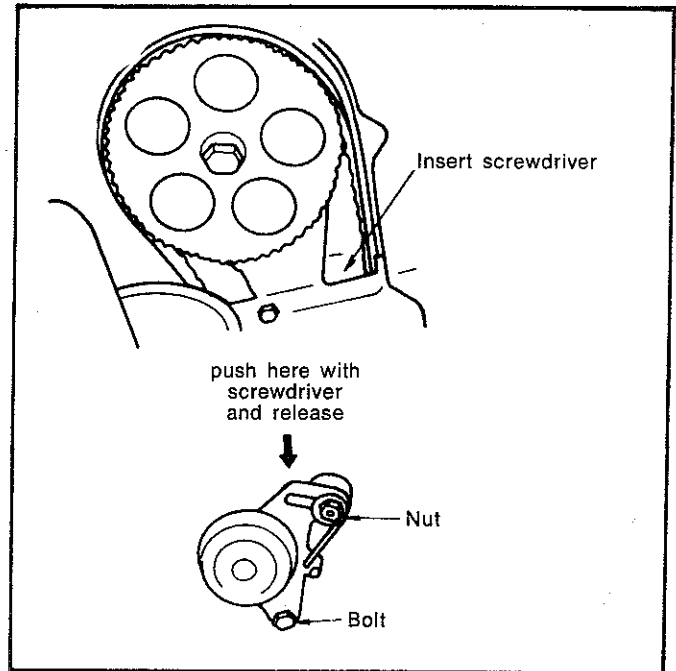

Fig. 88—Adjusting belt tensioner
(4) Using a special tool E9M55 loosen the upper attaching nut and then the lower bolt.
(5) Insert a screw driver from above the timing belt cover, slightly push tensioner bracket towards tensioning direction and then release (Fig. 88). The belt tension will be automatically adjusted with tension spring tension.
(6) Tighten tensioner upper attaching nut first and then tighten the lower bolt, using special tool E9M55.